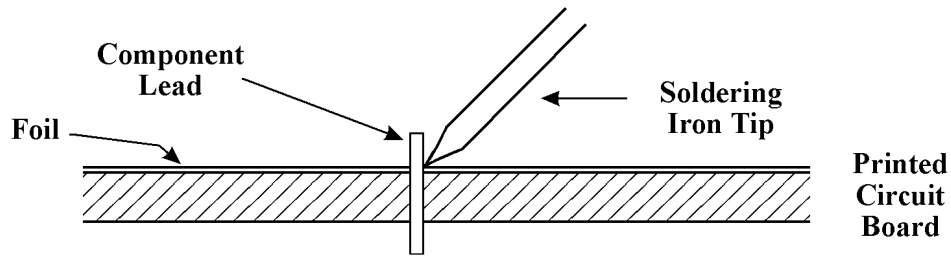

Figure 1
- 5.2 Place the pre-heated, tinned, soldering iron tip, simultaneously, against the printed circuit board foil and the component lead for approximately three to five seconds as in *Figure 1* below.